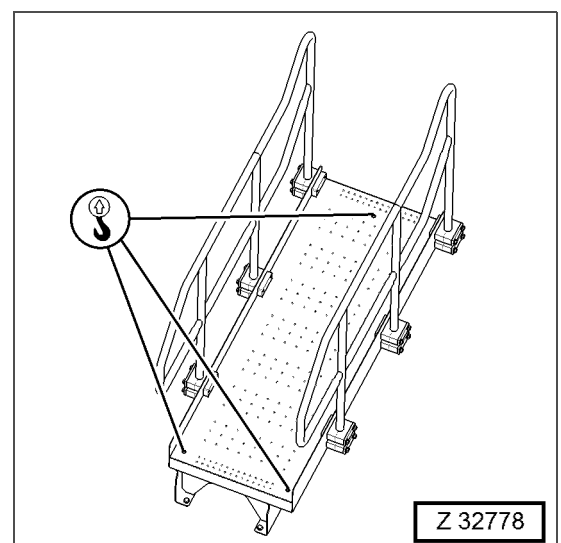

Fig. 3-463
10. Insert three swivel hoist rings into the marked locations at the fuel tank platform (rear) (Fig. 3-463).